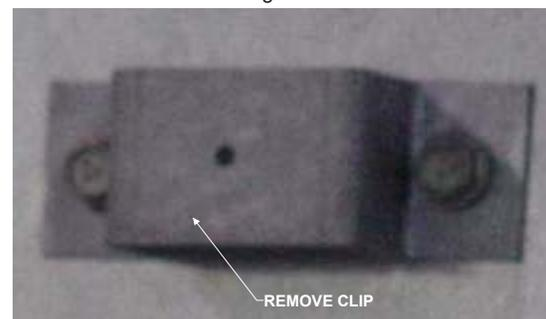

Figure 2
4. Remove both of the clips that are mounted to the upper spacer panel of the unit. See Figure 2 and 13.
9. Locate the A7 enthalpy control sensor (if removed earlier from the rooftop unit.) **See Figure 2.**